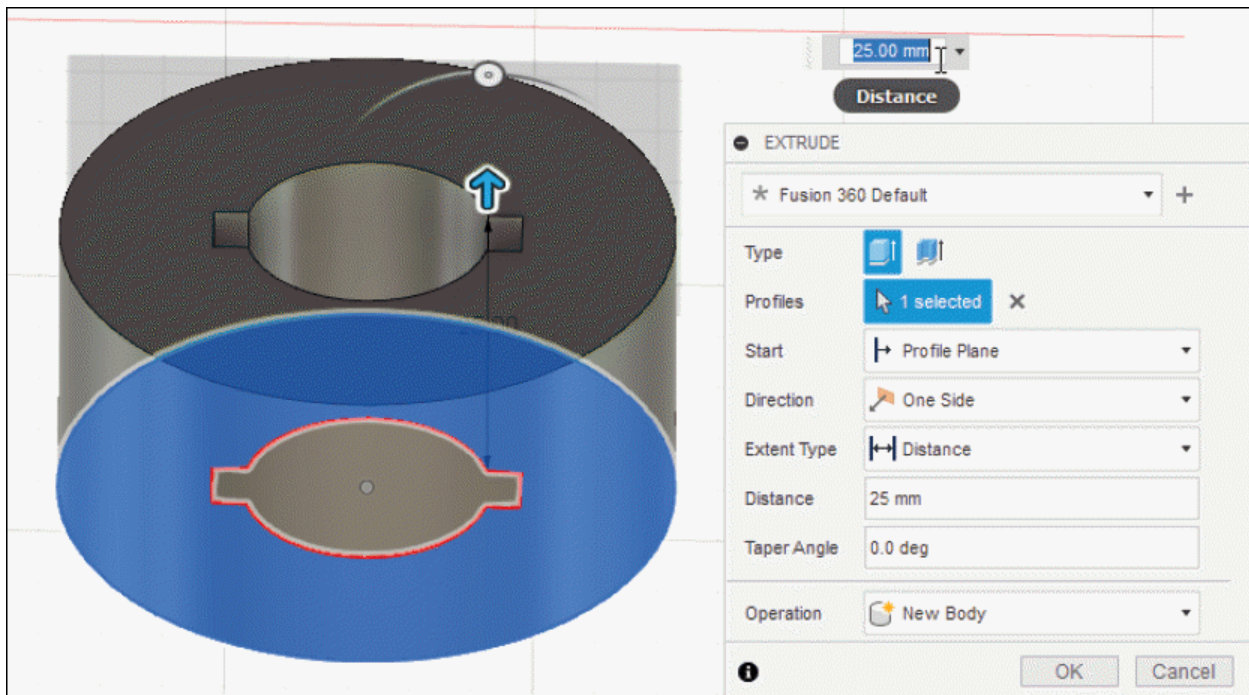

Figure-6. Preview of extrusion
- Specify the height of extrusion as **25** in **Distance** edit box or floating window. The preview of extrusion will be displayed; refer to Figure-6. (You need to rotate the model by using **SHIFT+Middle Mouse Button** to check the preview.)